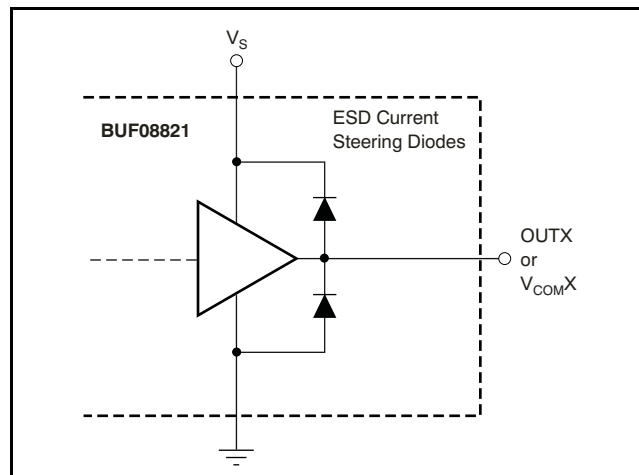

Figure 18. Output Pins ESD Protection Current-Steering Diodes
The BUF08821 output stages can safely source and sink the current levels indicated in Figure 1 and Figure 2. However, there are other modes where precautions must be taken to prevent the output stages from being damaged by excessive current flow. The outputs (OUT1 through OUT8 and the VCOM) include ESD protection diodes, as shown in Figure 18. Normally, these diodes do not conduct and are passive during typical device operation. Unusual operating conditions can occur where the diodes may conduct, potentially subjecting them to high, even damaging current levels. These conditions are most likely to occur when a voltage applied to an output exceeds (VS) + 0.5V, or drops below GND – 0.5V.